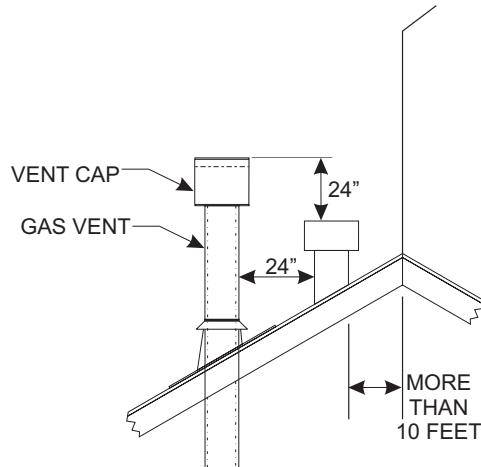

Figure 55A
**Major U.S. building codes specify minimum chimney and/or vent height above the roof top. These minimum heights are necessary in the interest of safety. These specifications are summarized in Figures 55A and 55B.**